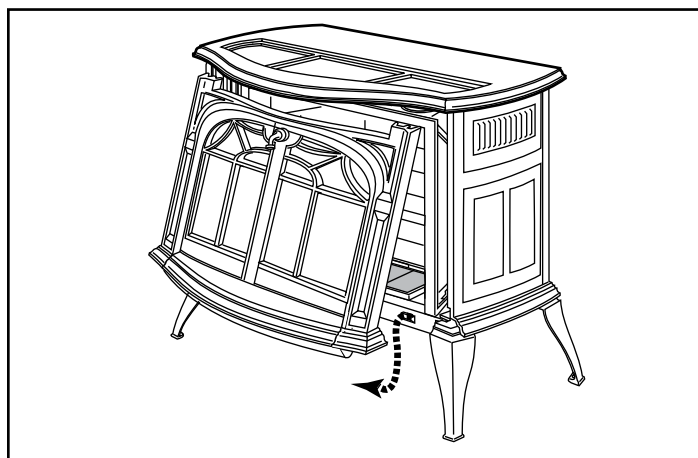

Fig. 4 - Remove the front plate.
2. Remove the Front Plate. Grasp one side and the bottom, and lift the front plate as a unit (the control door attaches to the stove front). Swing the bottom edge out and away from the stove body, (Fig. 4)